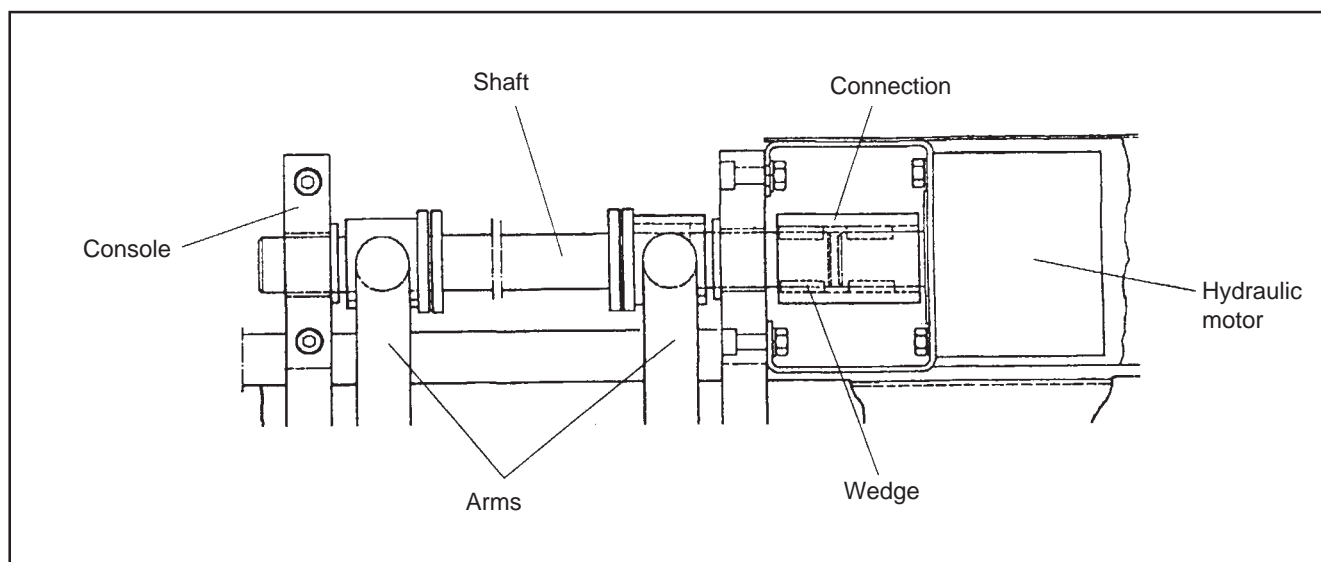

Figure 3.
2. Remove the hydraulic motor's covering plate, see figure 3.